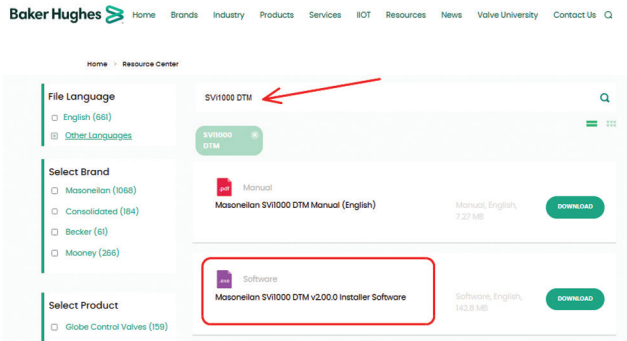

Figure 28 - Download Center: Search for SVI1000 DTM
- 1. Go to the Resource Library (<https://valves.bakerhughes.com/resource-center>) and enter SVI1000 DTM in the search field (red arrow in Figure 28).
The results appear (red box in Figure 28).